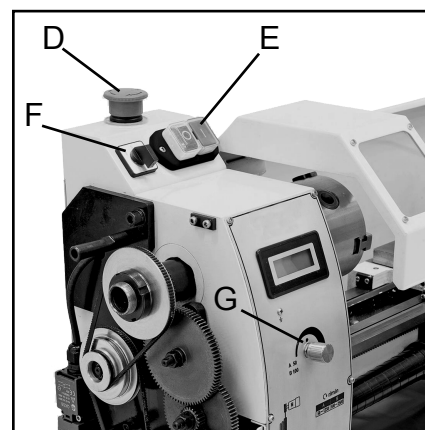

Fig. 9
1. Emergency Stop Switch (D, Fig. 9)
2. ON/OFF Switch (E, Fig. 9)
3. Change-over Switch (F, Fig. 9)
4. Variable Speed Control Switch (G, Fig. 9)